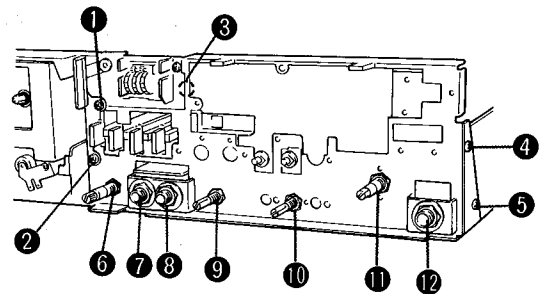

Fig. 6
3. Remove screws 1 to 5 from the front sub panel (Fig. 6) and pull the front sub panel slightly forward.
4. Remove the mic./line amp. P.C. Board by removing nuts 6 to 10 from the potentiometers and microphone jacks in Fig. 6.